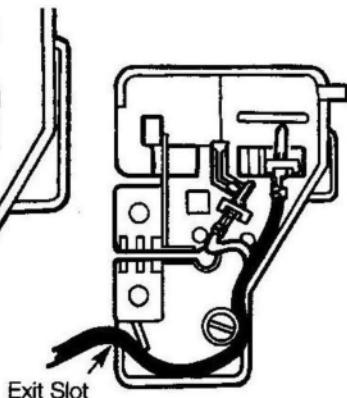

FIG 44
4. With right terminal wire above left terminal wire place twin wire around hollow post, allowing wire flexibility when slide is moved, and clip into exit slot as shown (Fig 44)